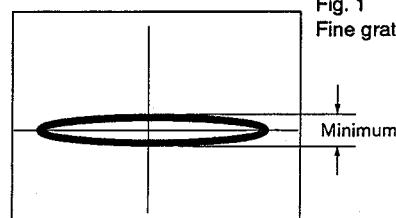

Fig. 1
3. Insert the small screwdriver into the grating adjustment hole, and fine-adjust the grating so that the Y-axis amplitude of the Lissajous figures is minimized. (Fig. 1)